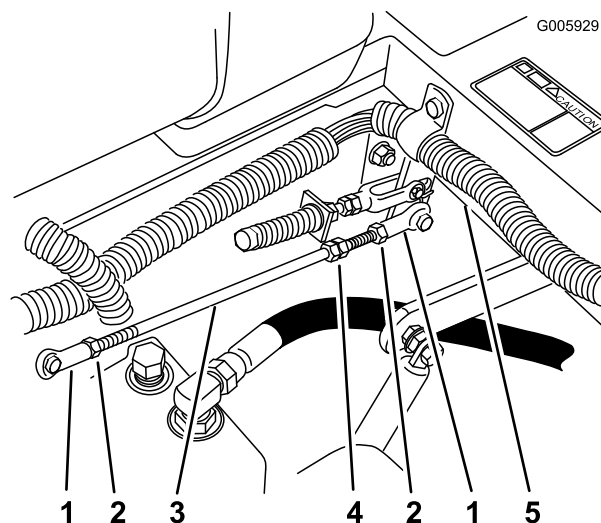

Figure 67
1. Loosen the locknuts at the ball joints on the pump control rod (Figure 67).
3. Adjust the pump rod length by rotating double nuts on rod, in the appropriate direction, until wheel is still or slightly creeps in reverse (Figure 67).
7. Tighten the locknuts at the ball joints (Figure 67).